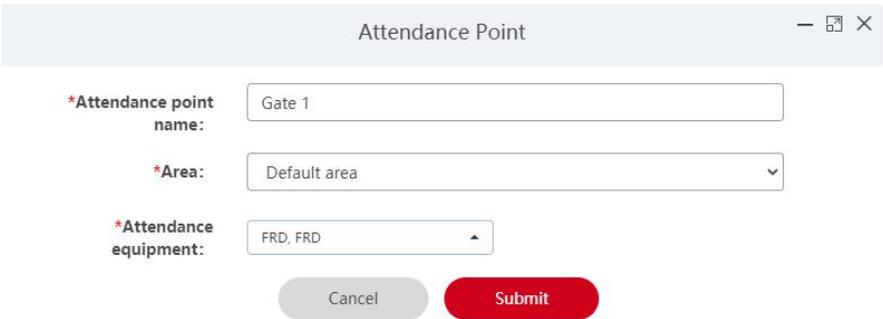

Figure 5-88
Step 2: Click "✎" of the attendance point to be edited, as shown in Figure 5-88.